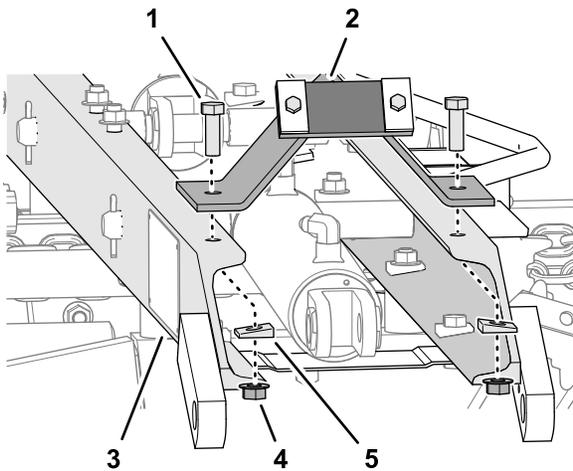

Figure 11
1. Align the holes in the lift-arm stop with the 12.7 mm (1/2 inch)–diameter holes in the top of the cross channels as shown in Figure 11.
2. Secure the lift-arm stop to the cross channels (Figure 11) with the 2 cap screws (1/2 x 1-1/2 inches), 2 tapered washers, and 2 flange locknuts (1/2 inch).